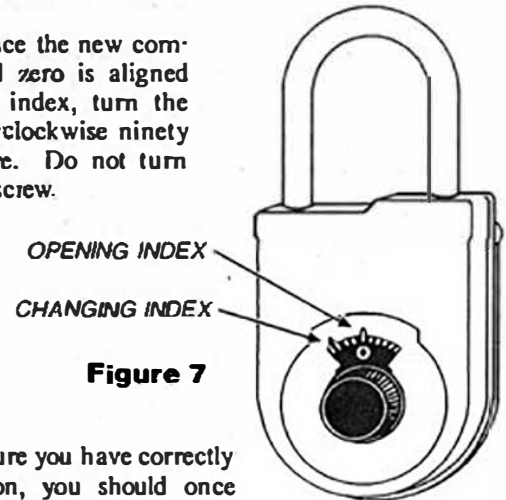

Figure 7
- Step 10 – With the reset key in the padlock, turn the dial left (counterclockwise) until "25" aligns with the **changing index** (Figure 7) the fourth time.